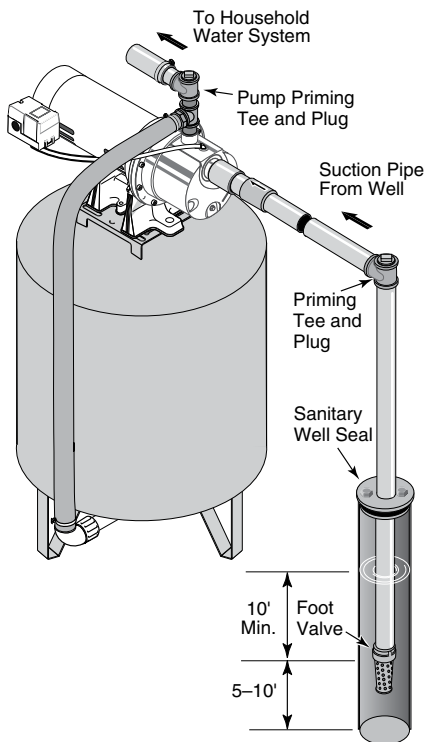

Figure 2: Cased Well Installation
Cased Well Installation, 2” or Larger Casing (Figure 2)
2. Assemble the foot valve, strainer, and well pipe (see Figure 2). Make sure that the foot valve works freely.
4. Install a priming tee, priming plug, and suction pipe to the pump (see Figure 2). Connect the pipe from the well to the pump suction port, using the fewest possible fittings – especially elbows – as fittings increase friction in the pipe (however, include a foot valve – see Figure 2). The suction pipe should be at least as large as the suction port on the pump. Support the pipe so that there are no dips or sags in the pipe, so it doesn't strain the pump body, and so that it slopes slightly upward from the well to the pump (high spots can cause air pockets which can air lock the pump). Seal the suction pipe joints with PTFE pipe thread sealant tape or a PTFE-based pipe joint compound. Joints must be air- and water-tight. If the suction pipe can suck air, the pump cannot pull water from the well.